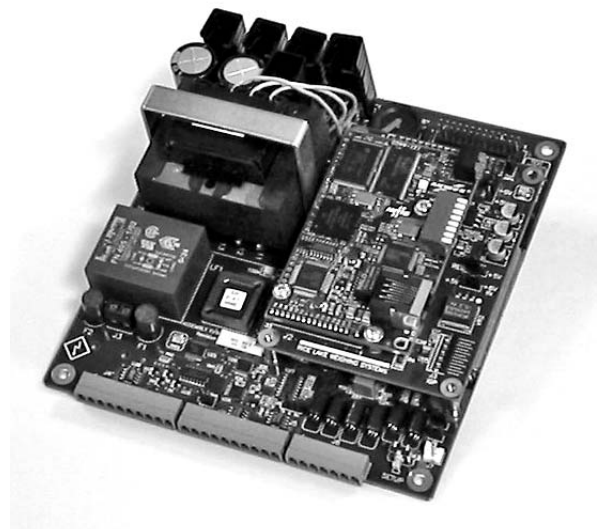

Figure 2-4. Option Installed 520 CPU Board
4. Use the screws and lockwashers provided in the option kit to secure the other end of the option card to the threaded standoffs on the CPU board (see Figures 2-4 and 2-1).
3. Carefully align the large option card connector with connector J2 on the CPU board (see Figure 2-4). Press down to seat the option card in the CPU board connector.